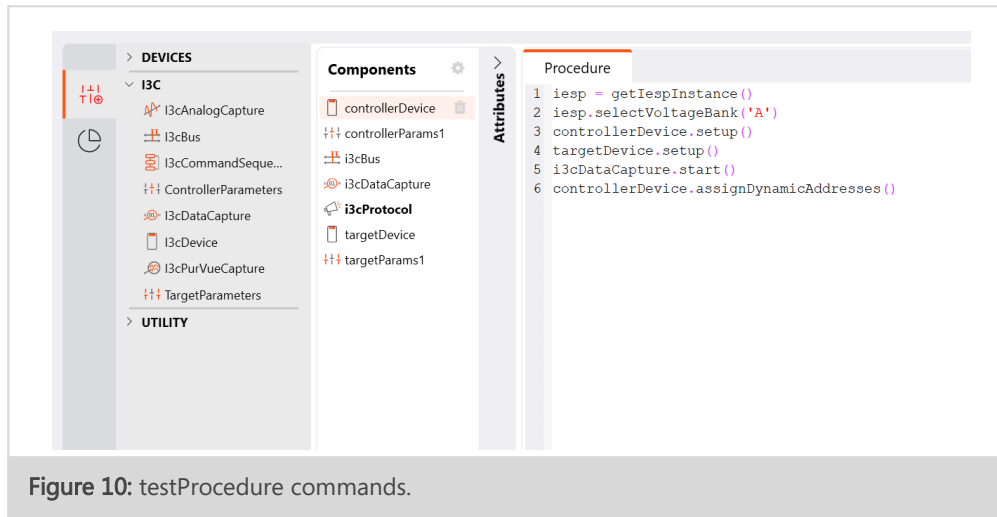

Figure 10: testProcedure commands.
- d) When started in the SV6E_I3C_EXERCISER form factor, the GUI contains a default script in the test procedure window and seven pre-populated components in the "Components" windowpane of the "Params" tab, as shown in the screenshots on the following page. As shown in Figure 10, the procedure must start by specifying the selected voltage bank, by using method `iesp.selectVoltageBank('A')`. By default, the voltage bank A is set to Bank A, but you could change it to Bank B, if needed. When the default script is executed, the `controllerDevice.setup()` and `targetDevice.stetup()` methods configure a controller device and a target device onto the I3C bus. Additionally, the `i3cDataCapture.start()` will start a bus capture.
- a) First, navigate to the bottom of the "Test Procedure" pane and notice that there are already three commands in the editor (as shown in Figure 10). The first one, `controllerDevice.setup()`, is used to initialize the controller device, which is already in the script by default. The second one, `targetDevice.setup()`, is used to initialize the target device we added in the previous section. Finally, the third one, `i3cDataCapture.start()`, is used to start the capture of the I3C bus waveform and its analysis.